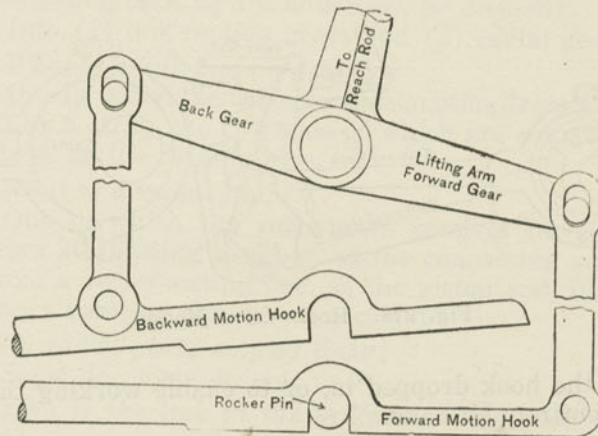

Fig. 274. Hook Valve Motion.
A. A reversed arrangement of Stephenson's fork motion; no starting bar being necessary, the V's settling on the pin and resting in the center. (See Fig. 274.)